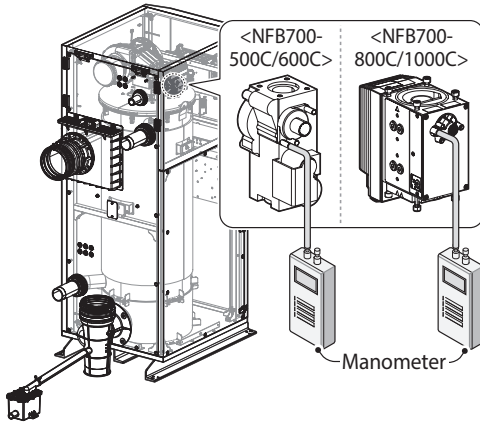

Figure 11. Connect Digital Pressure Manometer
- a. Open the offset pressure port by loosening the screw two turns as shown in Figure 11.